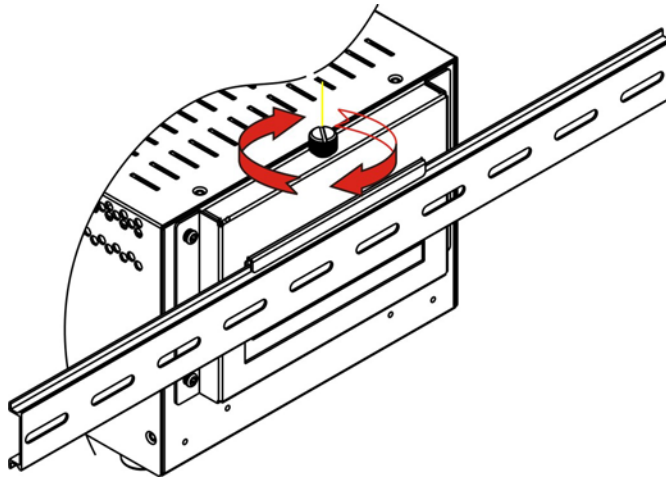

Figure 4-12: Secure the Assembly to the DIN Rail
Step 4: Secure the DIN rail to the mounting bracket by turning the top screw clockwise. This draws the lower clamp up and secures the embedded system to the DIN rail (**Figure 4-12**).